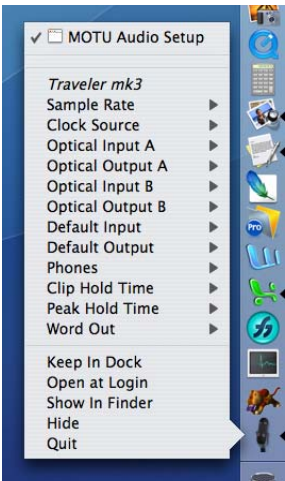

Figure 5-1: Accessing Traveler-mk3 settings from the dock.
- Press on the MOTU Audio Setup dock icon to open the menu shown in Figure 5-1, or control-click it to open the menu immediately